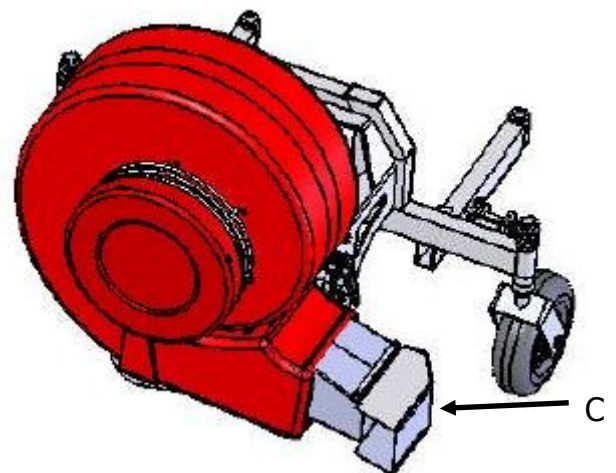

Fig 7
2. The side vent may be covered by the air flow deflector D (Fig. 7). Simply lower the deflector to divert the air forwards and raise the deflector to divert the air flow sideways.